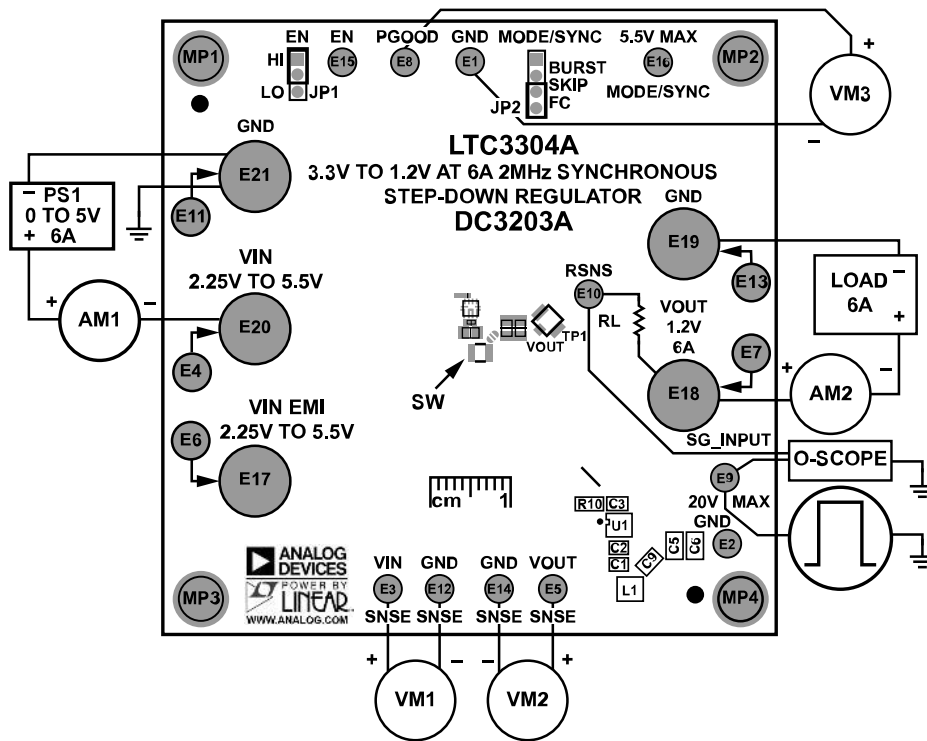
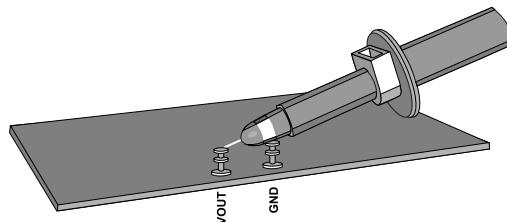

Figure 3. Test Setup for the DC3203A Demo Board
Figure 4. Technique for Measuring Output Ripple and Step Response with a Scope Probe
Demonstration circuit DC3203A is easy to set up and use to evaluate the performance of the LTC3304A. For the proper measurement equipment setup, see Figure 3 and follow the procedure below:
NOTE: For accurate V_{IN} , V_{OUT} , and efficiency measurements, measure V_{IN} at the V_{IN} SNSE and GND SNSE turrets, and V_{OUT} at the V_{OUT} SNSE and GND SNSE turrets as shown as VM1 and VM2 in Figure 3. When measuring the input or output voltage ripple, care must be taken to avoid a long ground lead on the oscilloscope probe. Measure the output voltage ripple by touching the probe tip directly across the output turrets or to TP1 as shown in Figure 4. TP1 is designed for a 50 Ω coax cable to reduce any high frequency noise that might couple into the oscilloscope probes.
- Connect an oscilloscope voltage probe as shown in Figure 4 in parallel with VM2. Set Channel to AC-coupled, voltage scale to 20 mV and time base to 10 μ s. Observe the V_{OUT} ripple voltage.
- To test the transient response with a base load, add the required resistor to produce a minimum load between V_{OUT} and RSNS turrets (RL shown on Figure 3). Note that the total load resistance is RL plus R8 (100 m Ω).